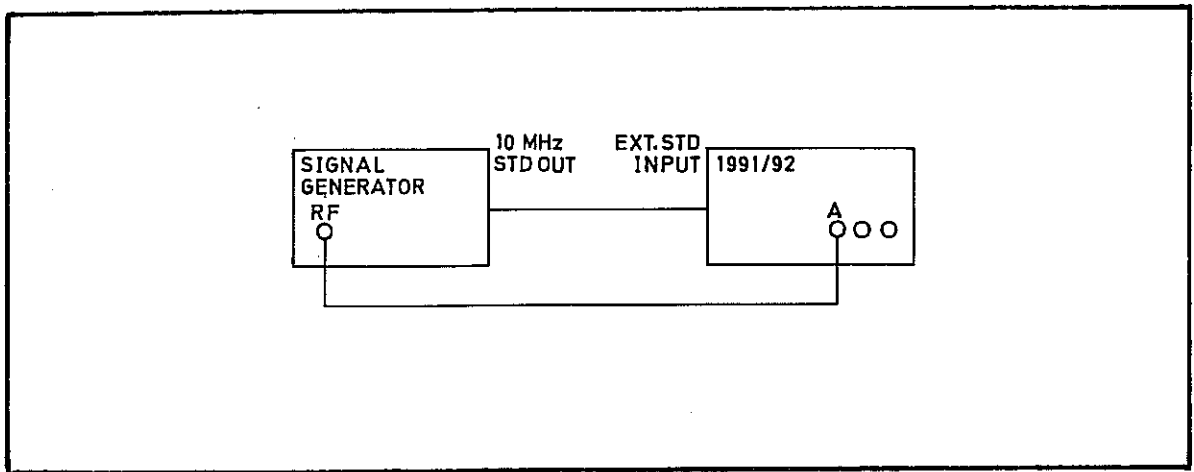

Fig 7.15 Connections for Channel A Sensitivity PVP
- (1) Switch on the 1991/92. Select  $50\ \Omega$  on channel A.
- (2) Connect the test equipment as shown in Fig 7.15. Check that the EXT STD indicator lights.
- (3) Set the signal generator output to the frequencies shown in Table 7.4 in turn. Set the 1991/92 resolution to the corresponding value.
- (4) At each frequency, determine the minimum input level to the 1991/92 which gives stable counting. Verify that this is not more than the level shown in the table.
- (5) Disconnect the test equipment.